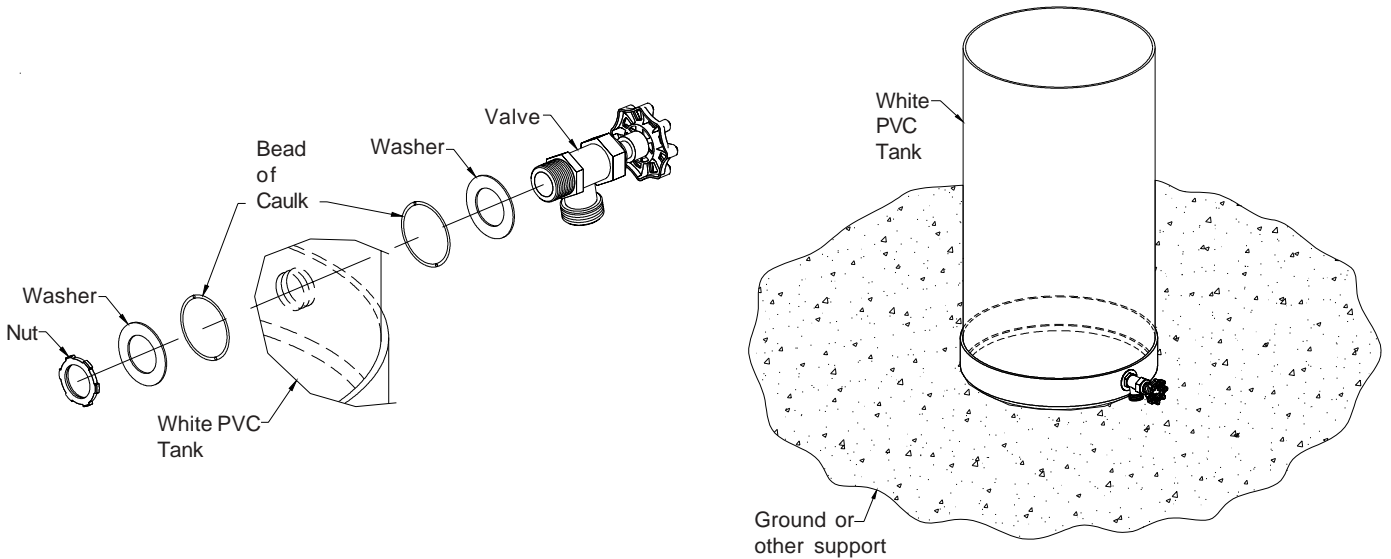

Figure 2
- 3) Place a thick bead of water resistant caulking on the remaining washer and slide it over the valve from the inside of the tank, use nut to secure the valve in position. **See Figure 2.**